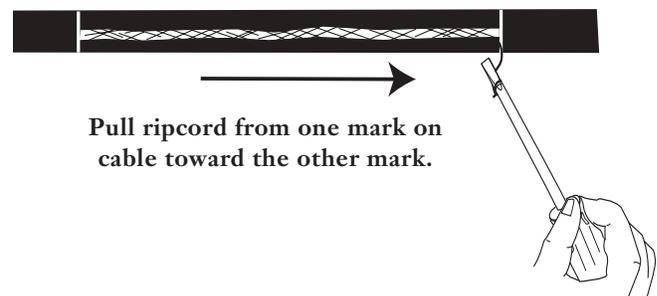

Figure 4
Step 5 Wrap the ripcord around a slotted screwdriver and pull towards the other ring cut to slit the section of outer sheath (Figure 4).